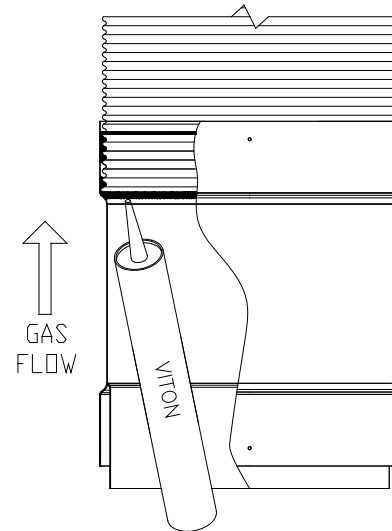

Figure 19-SecureSeal Flex assembly
- 2.2. Push the adapter on the liner all the way in, until you can't see the mark made on the flexible liner earlier (Figure 19). Make sure that the Viton® caulking is sealed well at the joint inside the adaptor by verifying inside the adaptor.